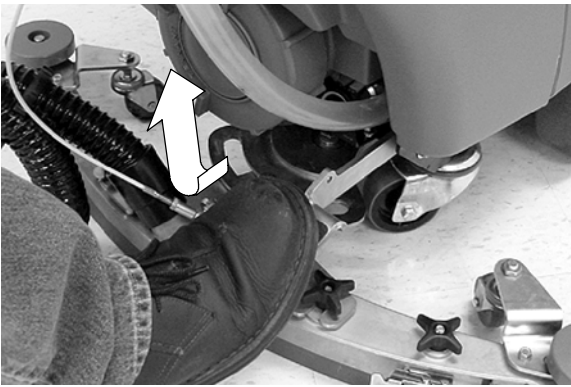

FIG. 16
- Lower the scrub head to the floor by stepping on the scrub head lift pedal as shown (Figure 16).